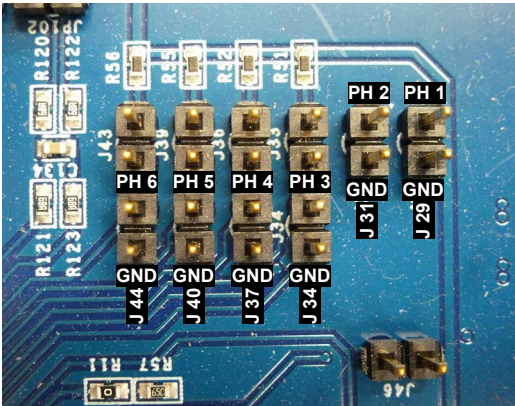

Figure 16. ISL78226 Scope Probe Connections
- (7) Connect the probes to the evaluation board. Use the connections shown in Table 2 and Figure 16 (ISL78226) or Figure 17 (ISL78224). **Note:** Renesas recommends disabling the part through the software and turning off all supplies before making connections to the board.
- (a) (ISL78226) Use the connections shown in Figure 16 and Table 2.
- (6) Connect probes as shown in Table 2 and Figure 16 or 17. **Note:** Renesas recommends disabling the part through the software and turning off all supplies before making connections to the board.
- (7) Turn on the 12V supplies, 5V supplies, and the 48V supply (no particular power supply sequence).
- (8) The first time you power up the board after configuring the board for Boost mode operation, verify the operation is set to Boost mode.